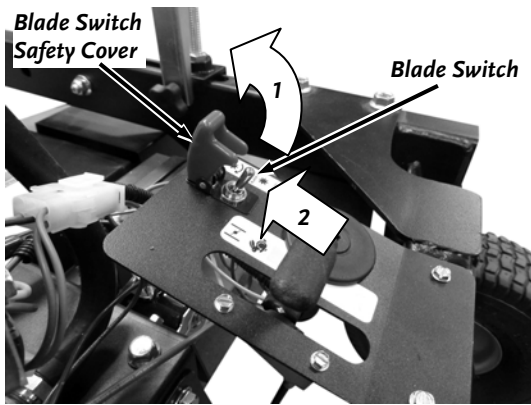

Figure 28
1. Engage the Blades by pulling up on the Blade Switch Safety Cover and pushing forward on the Blade Control Switch (**Figure 28**).